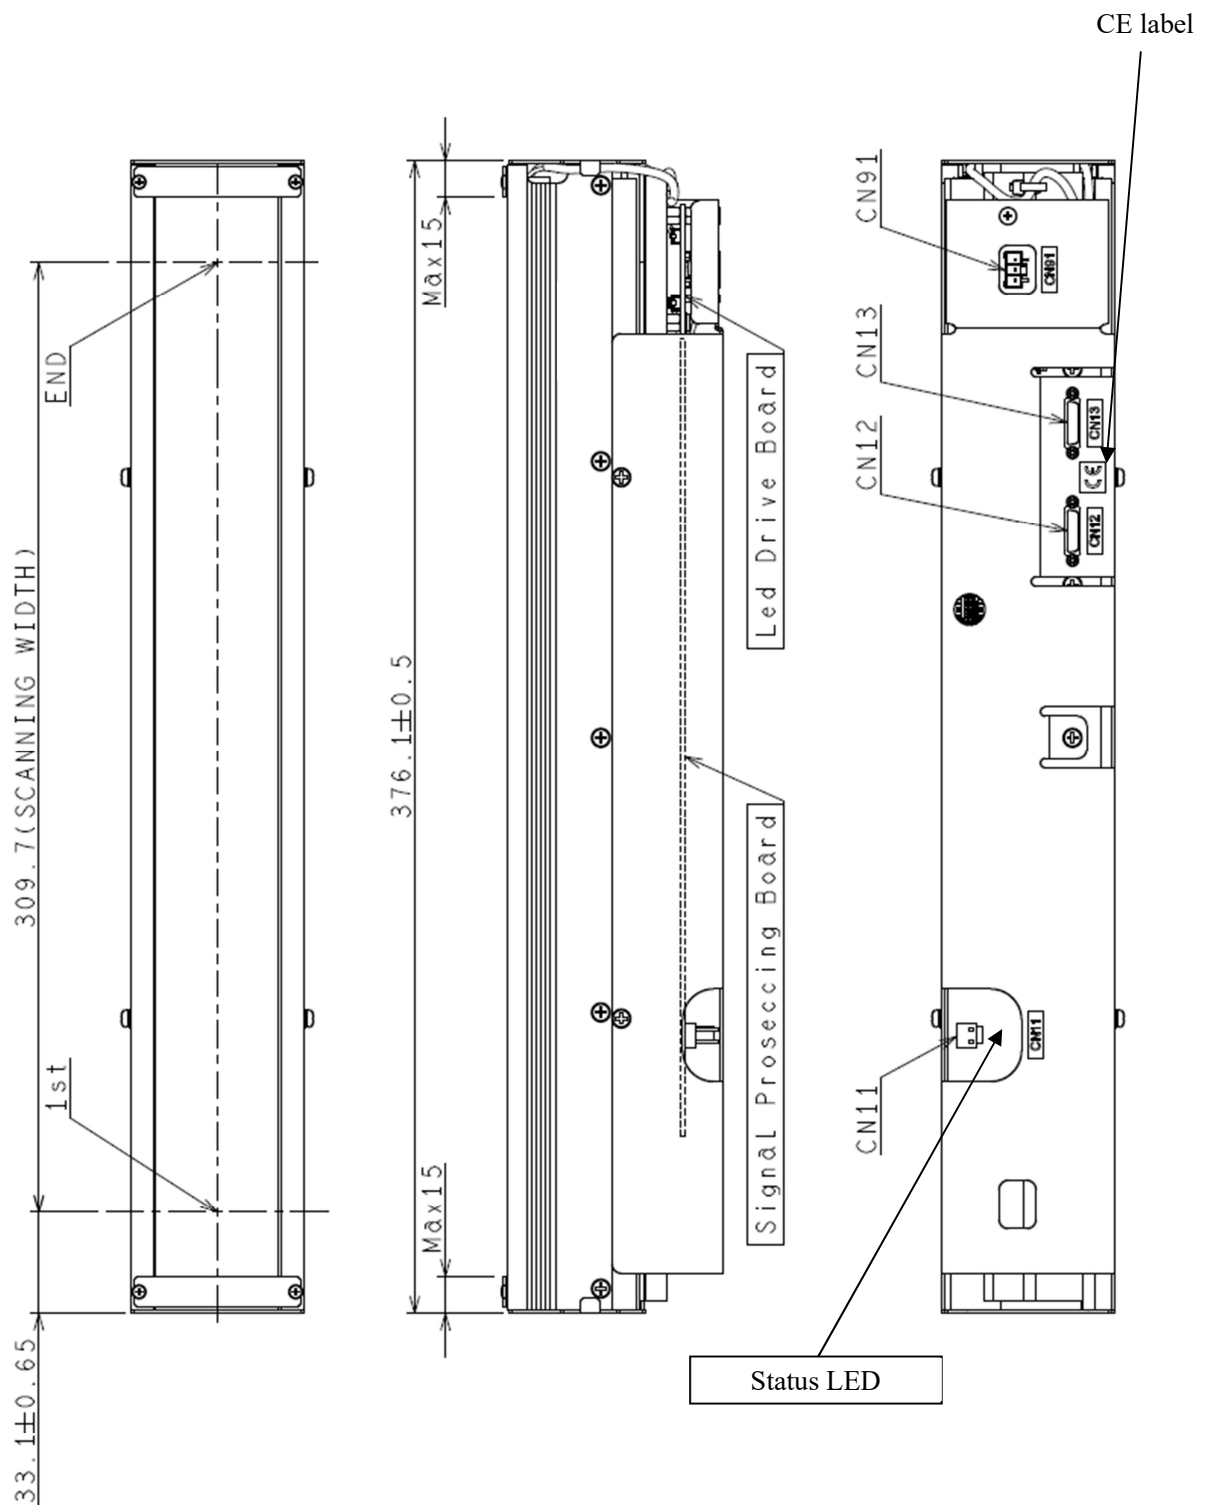
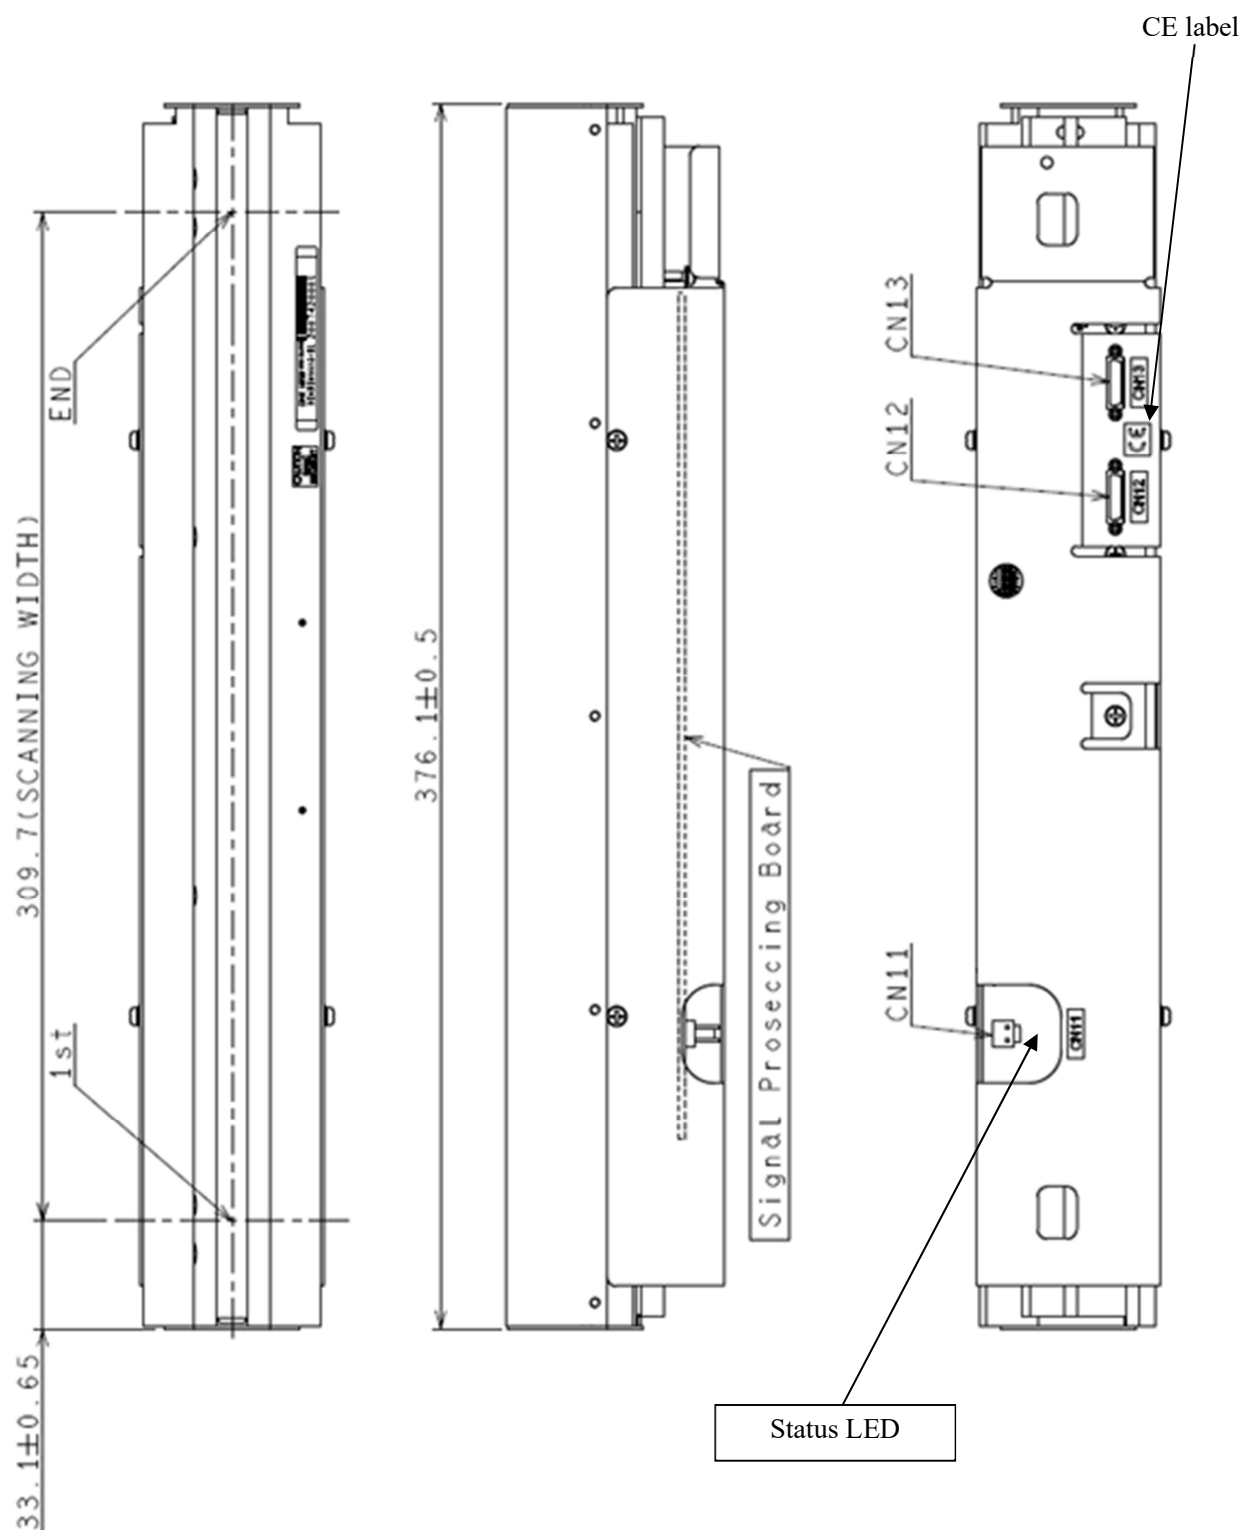

Fig.3 KD6R309AX4 Outline drawing (at 24°C)
Fig.8 KD6R309AX4-NL Outline drawing (at 24°C)
- 1) Keep this Product's boards away from sources of electrical noise, such as boards, cables, and so on. (For information on boards' position, refer to Fig. 3 to 6, Fig.8 to 10).
- (7) Storage environment and usage environment